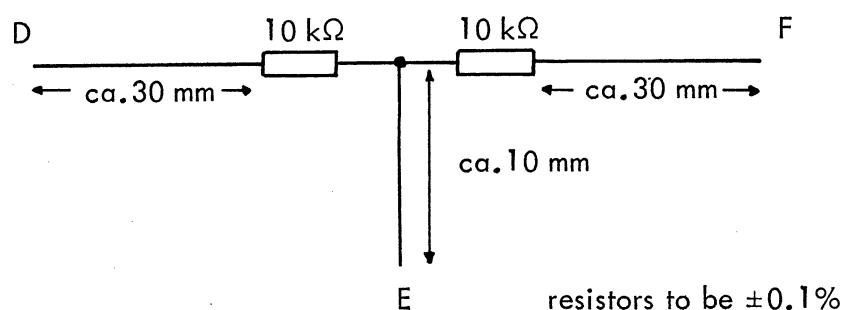

Fig.G2.
- 78) Now connect the attenuator shown in Fig.G2 to the AF OUTPUT connector, connecting point D to the centre conductor and point F to the outer screen.